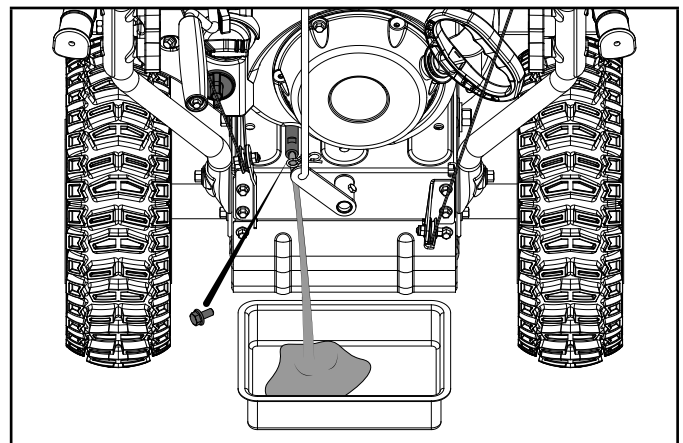

Figure 22
3. Remove the drain bolt and drain the oil into the container by slightly tipping the engine toward the oil cap/dipstick (Fig. 22).